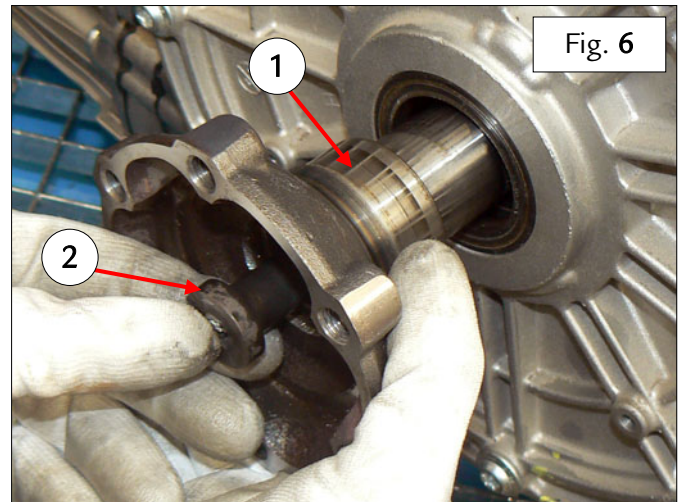

Fig. 6
- Rotate the gearbox clockwise to empty all the GL gear oil – Fig. 6.
- Remove the right hand flange (1) with the relative screw (2) – Fig. 6.